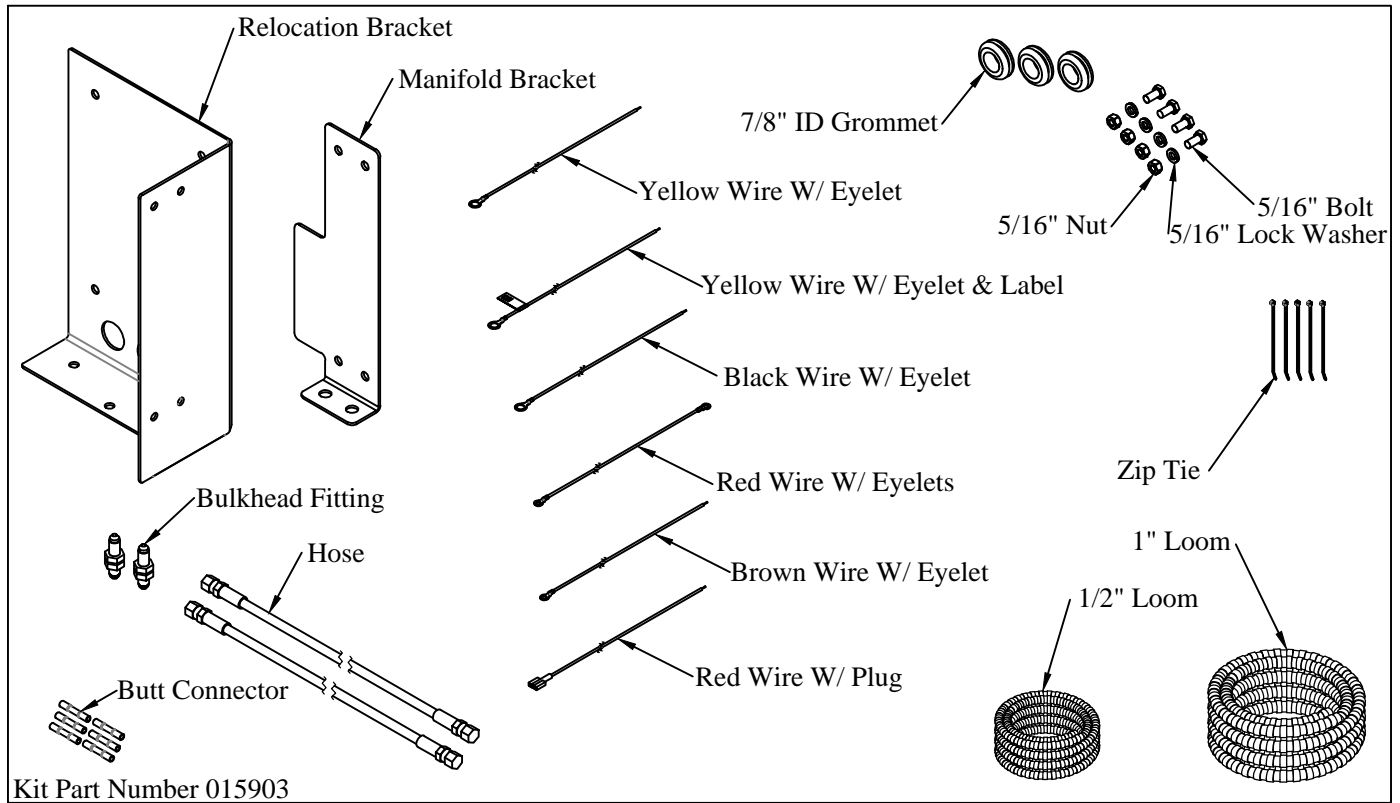

Figure 2: V2 Pump Box Relocation Part Identification
1. Verify repair kit (Figure 2 and Table 1).